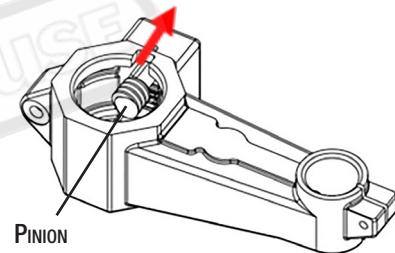

FIG. 4.4
1. Check to make sure the pinion is inserted into the table support, with the pinion and gear teeth mesh together. (Fig. 4.4)